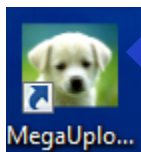
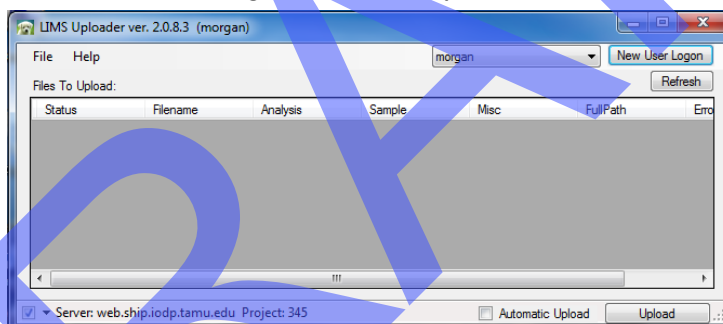

Figure 8. MUT desktop icon.
Figure 9. LIMS uploader (MUT).
1. Double-click on the **MegaUploadaTron (MUT)** icon on the desktop (Fig. 8) to open the **Upload Interface** screen (Fig. 9).